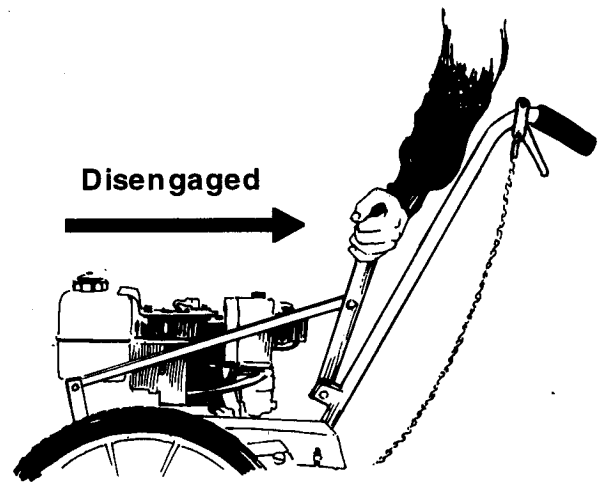

Figure 6
- ◆ Be sure all blade and wheel controls are DISENGAGED before attempting to start the engine. The DR® FIELD and BRUSH MOWER has been shipped with the blade engaged—make sure you disengage the blade before starting the engine. We recommend you engage and disengage the blade a few times to get used to it before mowing (*Figure 6*).